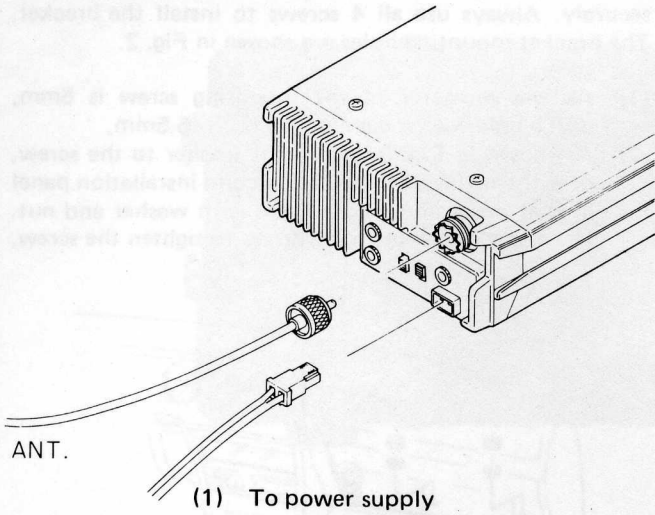

Fig. 4 Rear panel connection
- (3) Connect the antenna cable and power cord to the jacks located in C5800 rear panel (Fig. 4).